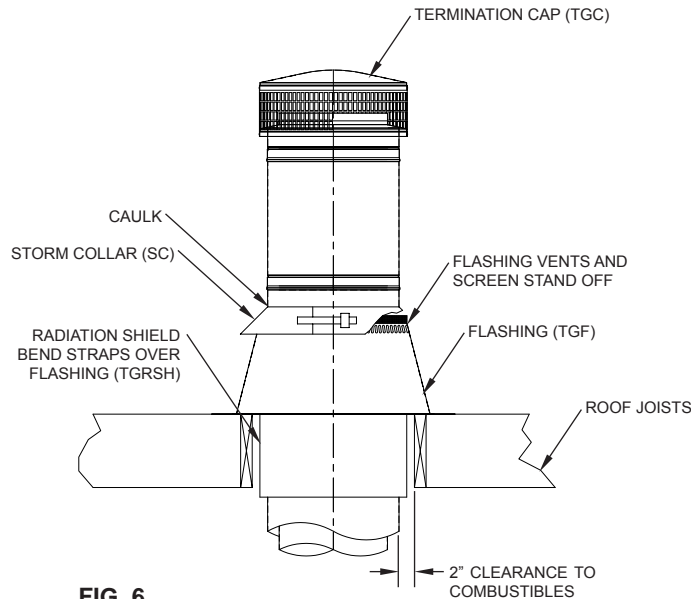

FIG. 6
- Continue the TG chimney to the roof. Cut the roof opening, centered over the chimney. A 2" airspace around the chimney is required as it penetrates the roof (See FIG. 6 and TABLE 1 for construction and framing dimensions).
- Install a radiation shield (TGRSH) over the chimney section and center the radiation shield within the joist area. Bend straps of radiation shield over the top edge of flashing to position in place. Apply a bead of caulk around the pipe at the top edge of the flashing screen. Wrap the Storm Collar around the pipe and imbed the edge of caulk to prevent leakage around pipe. Bend the flashing strap around the tab to tighten around the chimney (See FIG. 6).